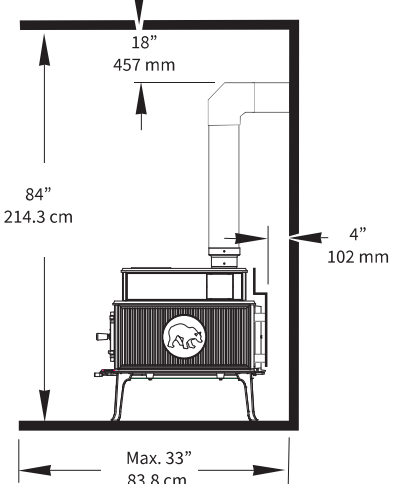

Figure 24. Alcove Ceiling and Single Wall connector pipe.
- Min. Ceiling & Single-wall Connector Clearance, see Fig. 24.